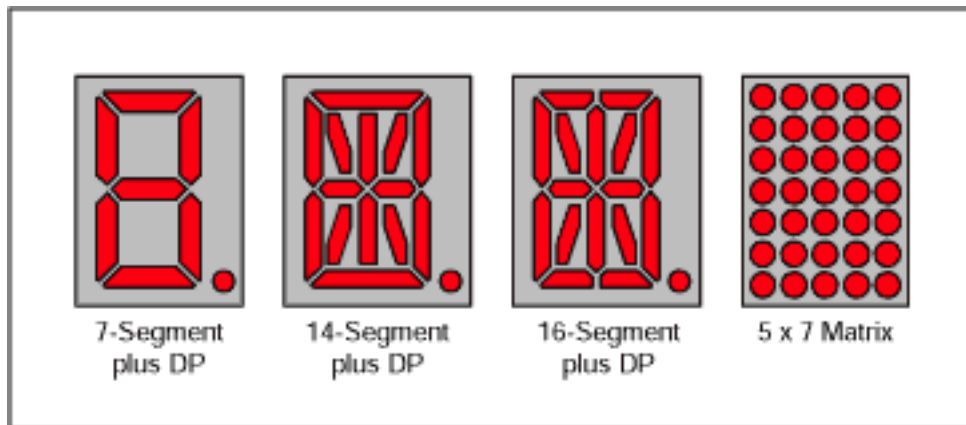

Figure 6. 7-segment, 14-segment, 16-segment, and 5 x 7 matrix digit types
The familiar 7-segment numeric display digit actually suffers from a misnomer, as there's nearly always an 8th segment for the decimal point (DP). The less familiar "starburst" alphanumeric displays are similarly referred to as 14-segment and 16-segment digits, ignoring the DP again. Starburst displays provide an economical way of showing the full 26 characters of the roman alphabet, in upper case, as well as the numerals 0-9. The difference between the 14-segment and the 16-segment digit types is that the top and bottom bar is split on the 16-segment digit, improving the appearance of some characters (Figure 6).